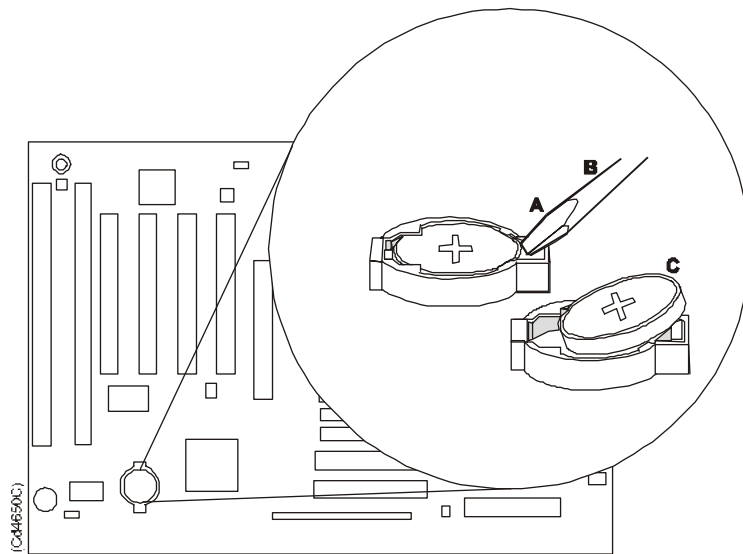

Figure 75 Replacing the battery
- 3 Locate the battery on the motherboard (see figure 75).